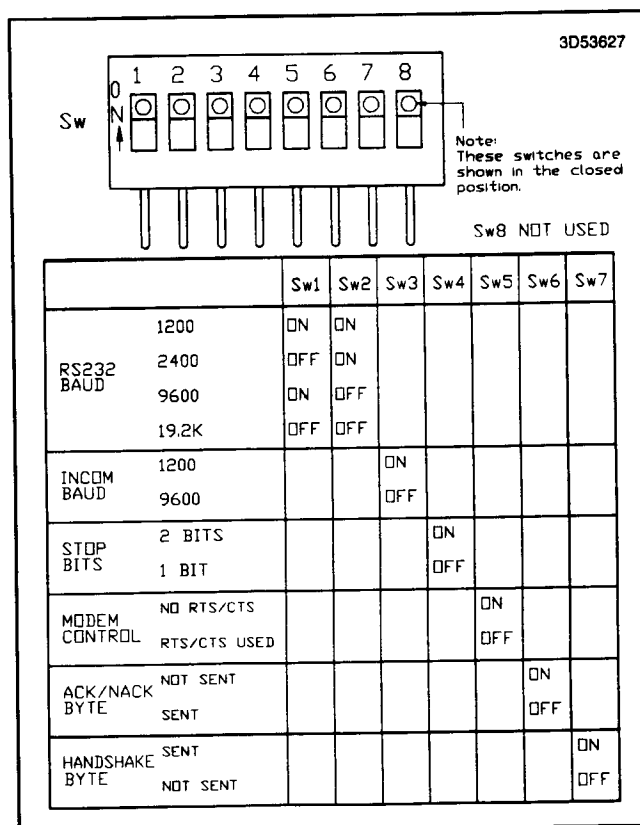

Fig. 5 Dip Switch Settings
- d. Set each of the seven switches on the eight-position DIP switch shown in Figure 5. Switch 8 is not used.